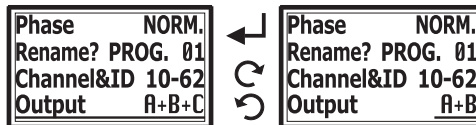

Fig. 19
- (K) Output function, Fig. 19: